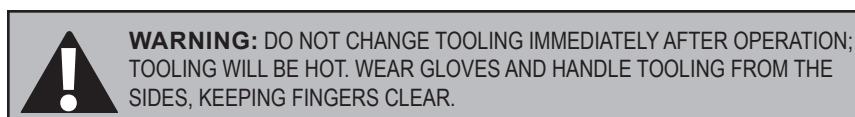

FIG. 10
Use the grind and scape plate without the satellites for active grinding, scraping, removal and prep (Figure 10). This method is quicker and more aggressive than passive grinding. Metal bond diamonds, carbides, PCDs and directional tooling may be used.
4. Insert the tooling segments into the magnetic pockets of grind and scrape plate (Figure 10). Be careful around pinch points, as the tooling will snap into place. For removal, insert screwdriver into gap and pop tooling out. For safety purposes, tooling segments should be attached to the plate using a single mounting screw (P/N 73097).